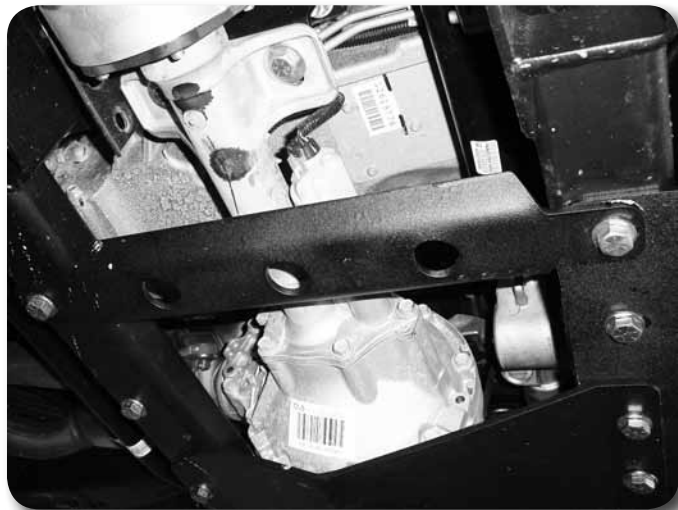

Figure 23
40. Attach the provided crossmember support strut to the front and rear crossmembers with 1/2" x 1-1/4" bolts and 1/2" SAE washers. The ends of the support strut are bent to set flush with the bottoms of the crossmembers **Figure 23**. Use Loctite on the support bolts. Leave hardware loose.